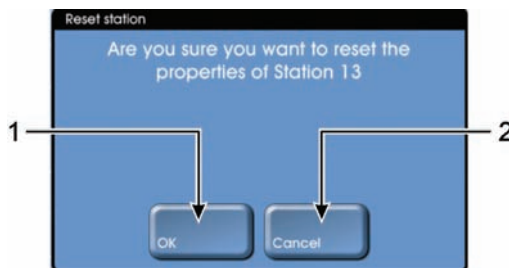

Figure 101: Reset station dialog box with OK (1) and Cancel (2) buttons
7. The "Reset station" dialog box will now appear (see Figure 101).
9. Select the **Cancel** button if you wish to end this procedure without resetting the selected station (see Figure 101).
10. Select the **OK** button to reset the station's history and concentration. This procedure cannot be undone (see Figure 101).
11. Check the station's **Conc.** cell (item 6). Select the cell and enter a new concentration value if required.
12. Check the station's **State** cell (item 8). Select the cell and change the state if required.